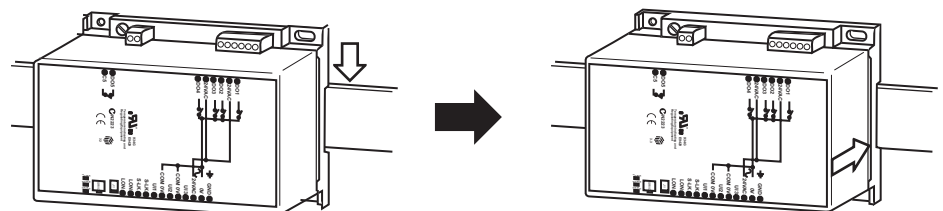

Figure-4 DIN Rail Mounting Method.
3. Do the following to mount the controller onto a 35 mm DIN mounting rail (Figure-4):